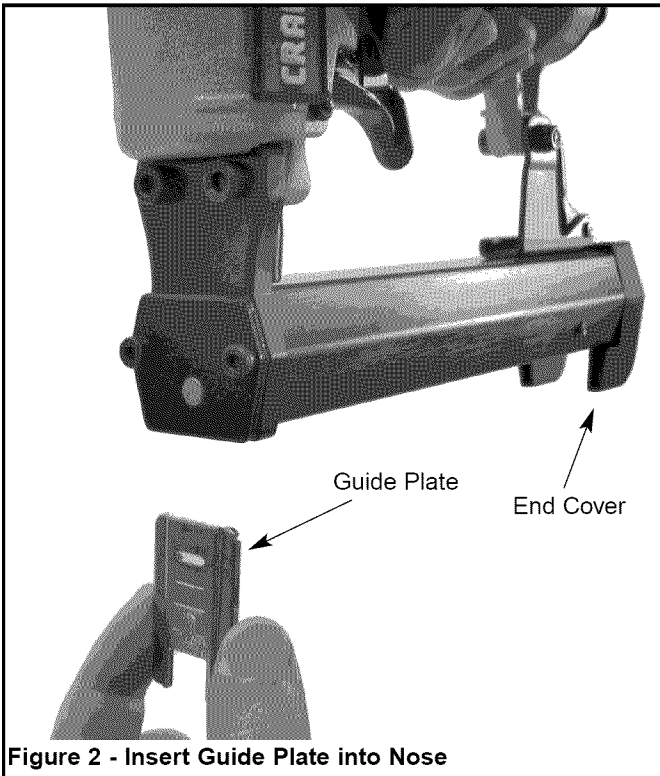

Figure 2 - Insert Guide Plate into Nose
Refer to Figures 2, 3, 4 and 5 (page 4).
- Select the guide plate that corresponds to the size of cable or wire that will be fastened. Slide guide plate into the nose. A magnet holds the guide plate in position. The tool is shipped with one guide plate in nose and two guide plates stored inside end cover (see Figures 2 and 3, page 4).